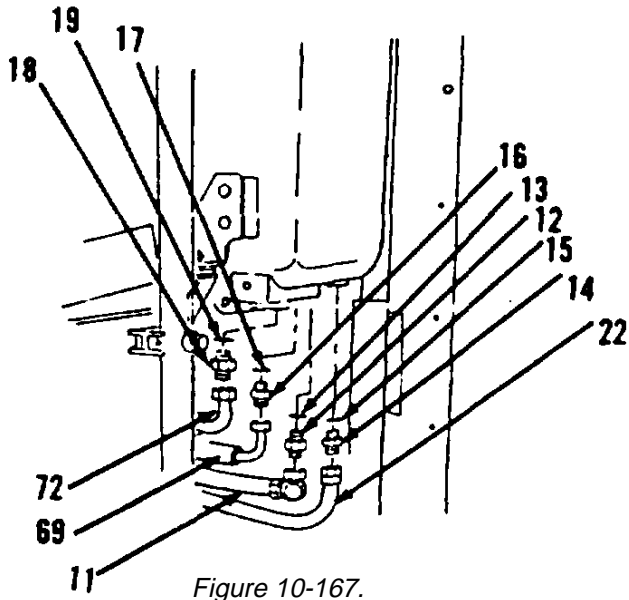
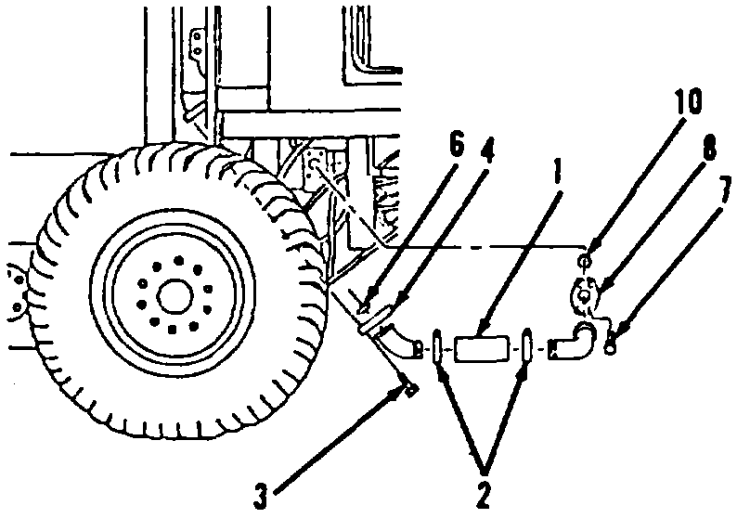

Figure 10-167.
Figure 10-166.
- 27. Install new preformed packing (19) and connector (18, Figure 10-167).
- 28. Install new preformed packing (17) and connector (16).
- 29. Install new preformed packing (15) and connector (14).
- 30. Install new preformed packing (13) and connector (12).
- 32. Install new seal (10), stem (9), flange (8) and four bolts (7, Figure 10-166).
- 33. Install new seal (6), hose (5), flange (4) and three bolts (3).
- 34. Install two clamps (2) and hose (1).